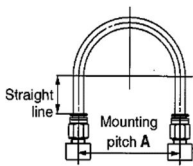

Figure 1 Recommended piping
**(1) When connecting piping to the One-touch fitting, use a pipe length with sufficient margin, in accordance with the piping conditions shown in Figure 1.**